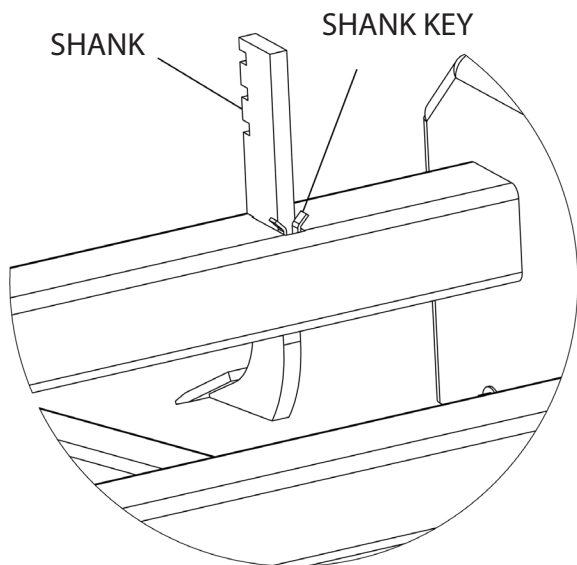

Figure 4. Scarifier Shanks Adjustment
3. Remove shank key for disengagement of shank (see Figure 4).
4. Remove shank from bottom of tube (see Figure 4).